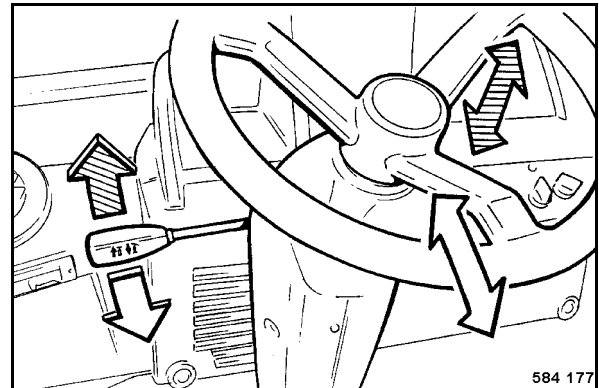

Fig. 71
- Adjustment of steering wheel in height, pull lever (Fig. 71) up and move the steering wheel to the desired height.